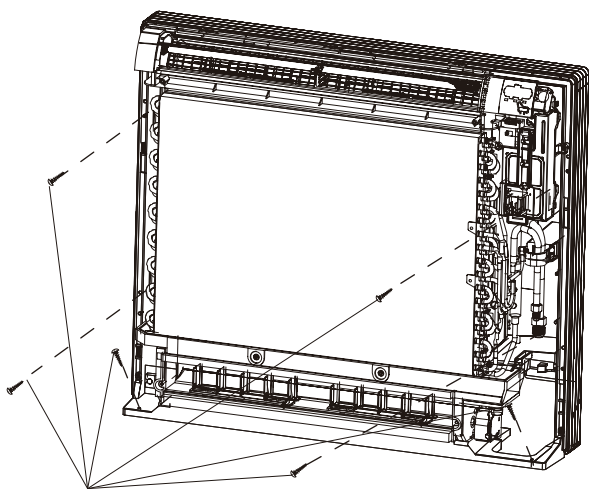

Figure 3.5
- For floor installations, secure the indoor unit using 6 screws. (Do not forget to secure to the rear wall.) (Refer to Figure 3.5)